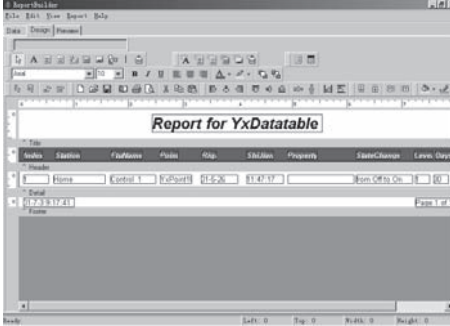

Fig. 7.7
D) Design the Report: Select and click **“Design”** and you will then enter the diagram of the designing report, as in Fig. 7.7.